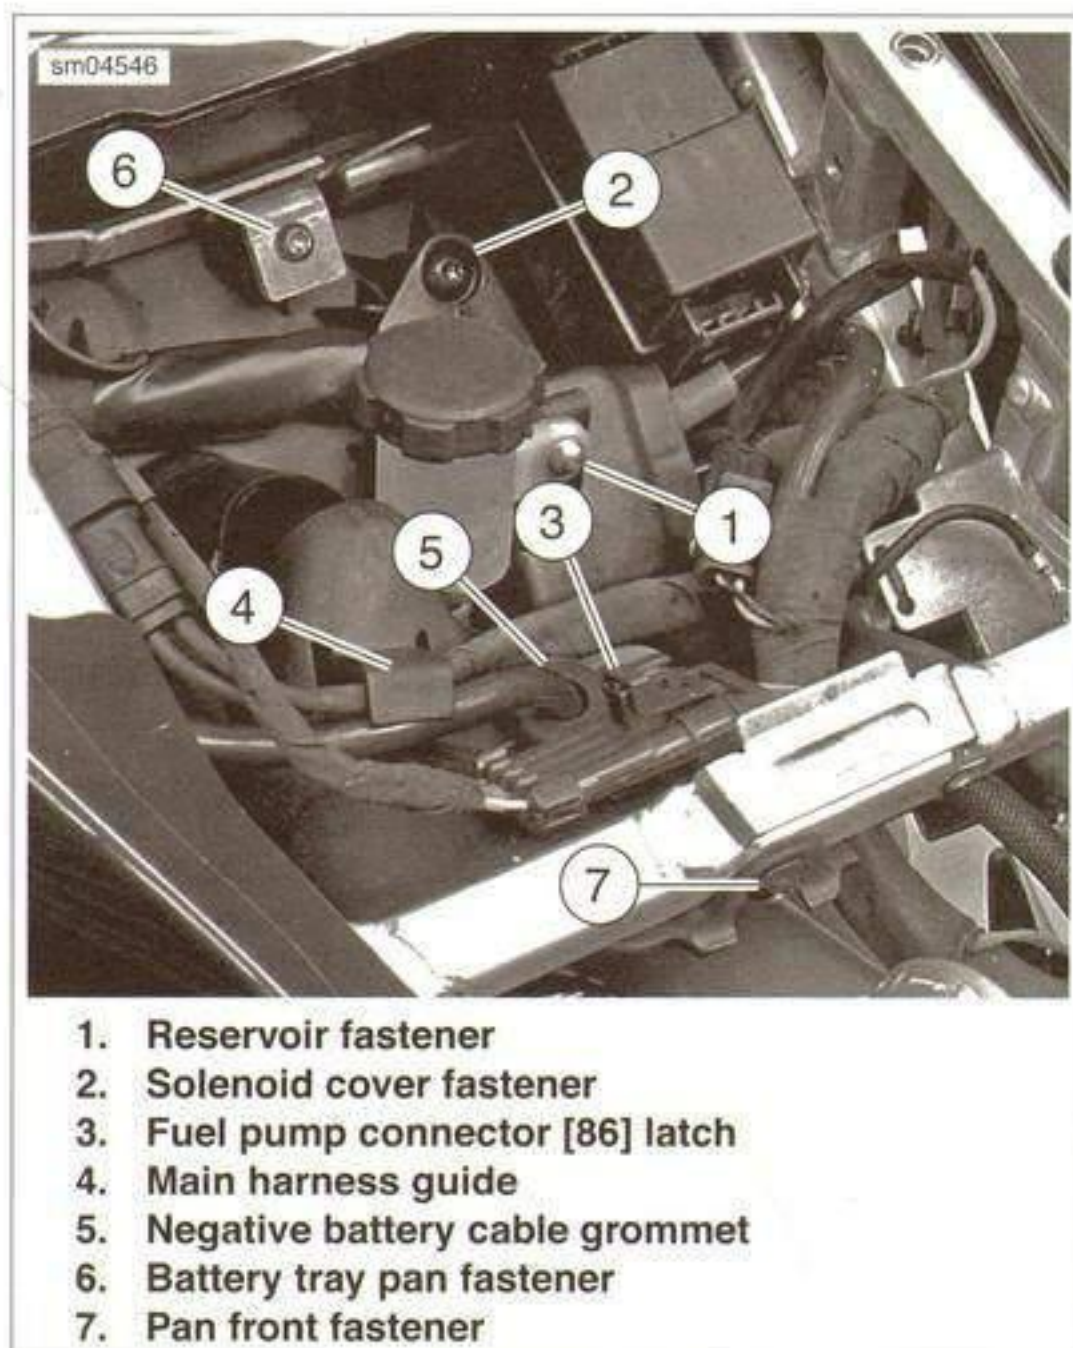

Figure 2-118. License Plate Lamp Connectors
4. See Figure 2-118. Separate the license plate lamp barrel connectors.